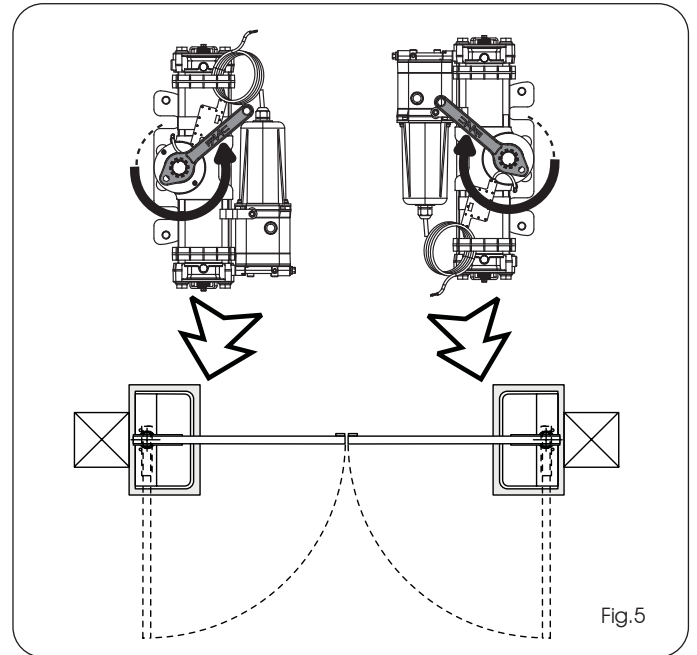

Fig.5
- 5) Turn the pinion of the operator using the supplied plastic wrench, **in the closing direction**, until it reaches the internal stop of the piston and remove the wrench. (Fig.5)